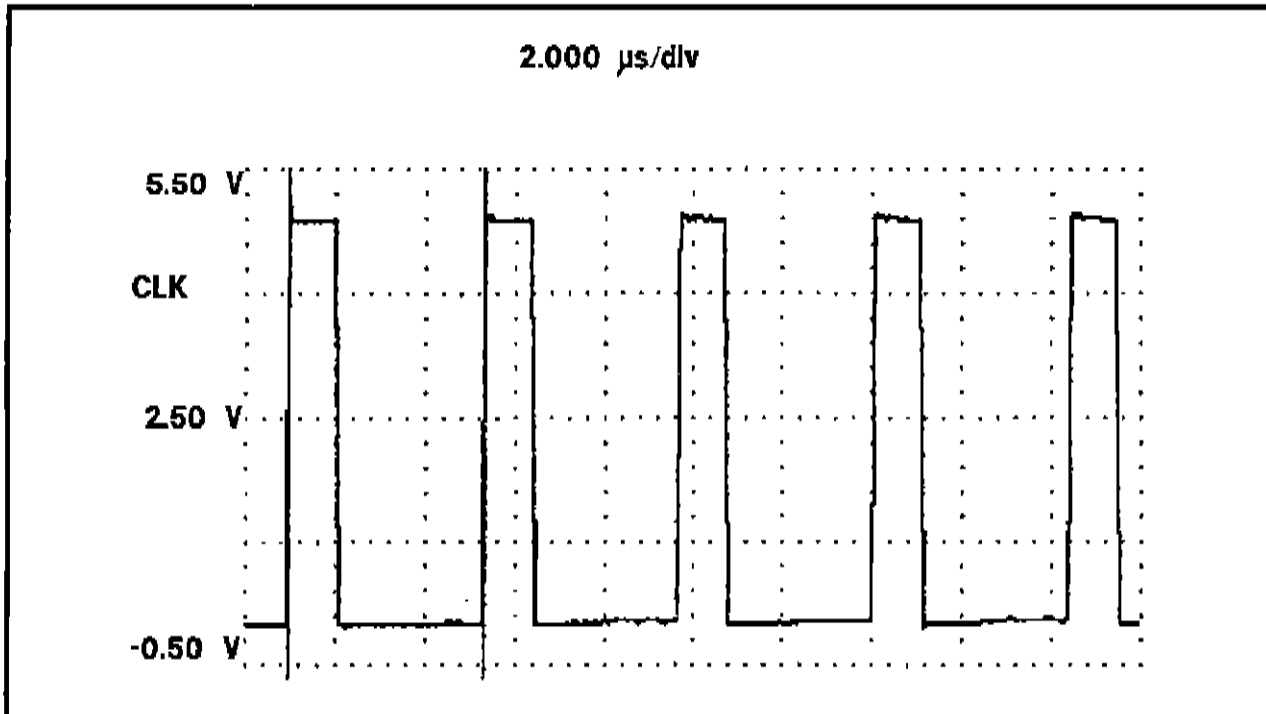

Figure 3-26. TEST or COMMON Scanner PCB CLK Waveform.
7. Run the Maintenance Utility program and select R, Relay Check utility at the menu. Using an oscilloscope, observe the TEST 1 Scanner PCB CLK on U2-pin 40 (5832) while running this test and compare it with Figure 3-26. If different, then troubleshoot the input buffer U1-pin 5 (input), and pin 6 (output). If /CLK is not present, then refer to the Digital PCB troubleshooting section pertaining to the scanner interface. If the /CLK waveform appears to be loaded down, then it may be necessary to isolate the fault by removing the remainder of the Scanner PCBs from the Backplane PCB.
8. Similarly, observe the TEST 2 Scanner PCB CLK on U2-pin 40 (5832) and compare it with Figure 3-26. Follow troubleshooting notes as in step 7 above if needed.
16. Run the Maintenance Utility program and select R, Relay Check utility. Using an oscilloscope, observe the COMMON 1 Scanner PCB CLK on U2-pin 40 (5832) while the relays are being tested and compare with Figure 3-26. If different, then troubleshoot input buffer U1-pin 5 (input) and pin 6 (output). If /CLK is absent, then refer to the Digital PCB troubleshooting section pertaining to the scanner interface. If /CLK waveform appears to be loaded down, then it may be necessary to isolate the fault by removing the remainder of the Scanner PCBs from the Backplane.
17. Similarly, observe the COMMON 2 Scanner PCB CLK at U2-pin 40 (5832) and compare with Figure 3-26. Follow troubleshooting as in step 16 above if needed.